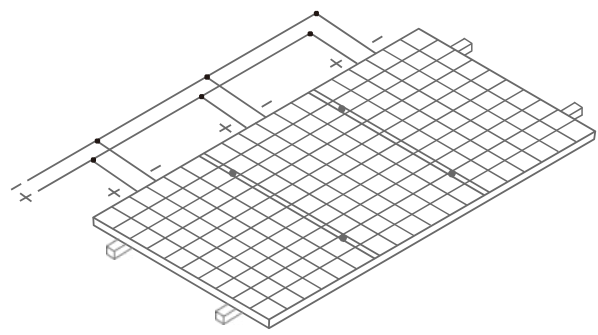

Figure 6. Connection in parallel
- When connected in parallel, the current output is equal to the sum of each string's current (as shown in Figure 6). Fuse is necessary for each module string. Take reference to the local regulation. Recommended maximum parallel Modules configurations: Fuse rating/ (1.25* short-circuit current). Please refer to the country's or local regulations for details.